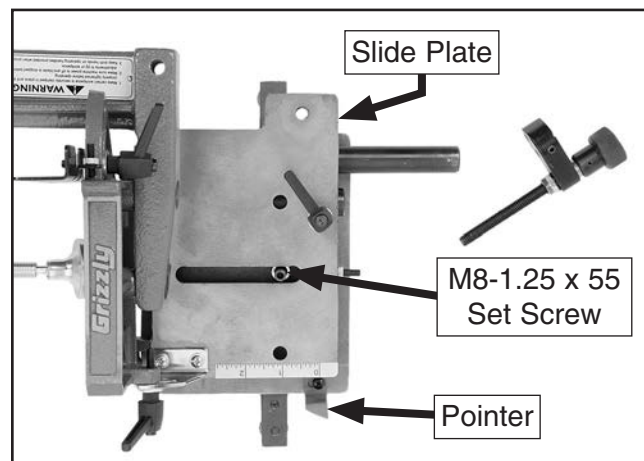

Figure 12. Slide plate positioned over base plate.
5. Thread M8-1.25 x 55 set screw removed in **Step 1** back into middle, inward hole on base plate, then tighten jam nut to secure it (see **Figure 12**).
6. Loosen Phillips head screw that secures pointer (see **Figure 12**), and swing pointer out of the way.
7. Place slide plate onto base plate over M8-1.25 x 55 set screw, as shown in **Figure 12**.